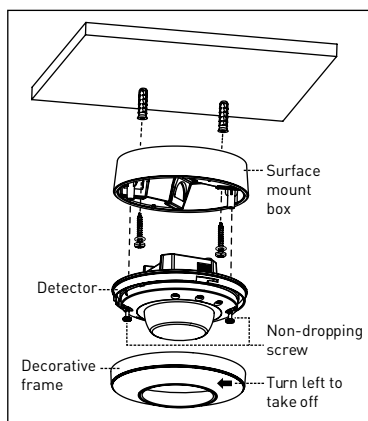
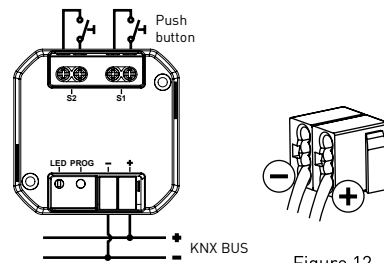

Figure 8
Figure 12
4. Refer to wiring diagrams for correct wiring connection (Fig. 12) and after ETS programming fix the detector into surface mount box with 2pcs non-dropping screws (Fig. 8).